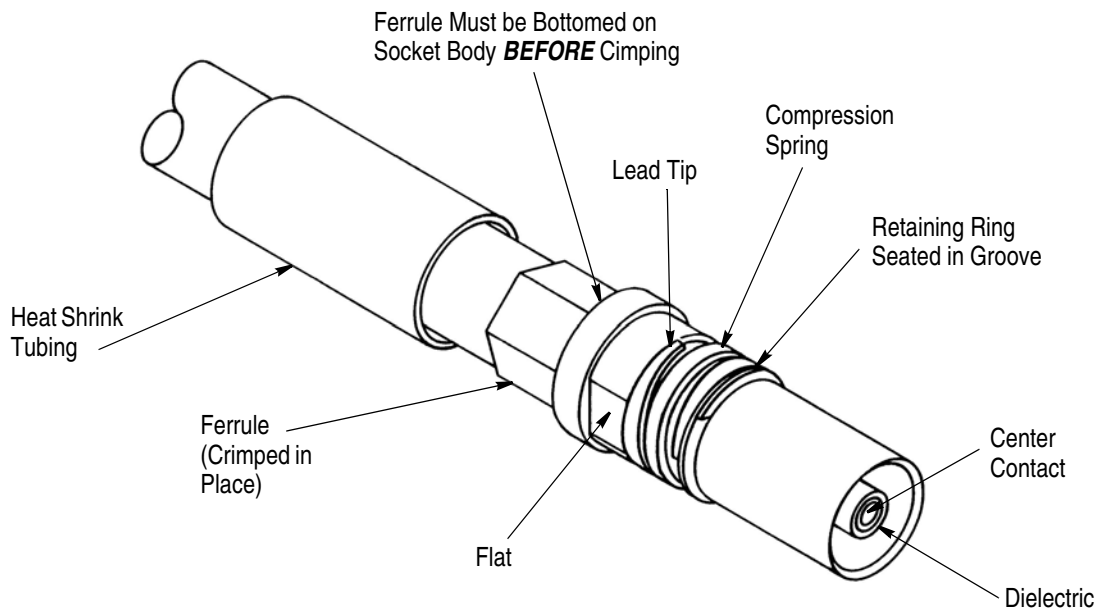

Figure 5
14. Slide the heat shrink tubing over the ferrule until it butts against the contact body. Using a hot air heat gun or other safe heat source, apply heat to the tubing until it is formed evenly around the ferrule and cable jacket. See Figure 5.